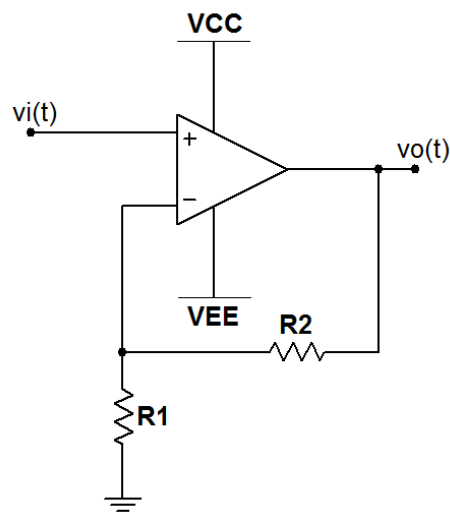

Figure 2.4: Circuit for Problem 2.4
Figure 2.4 illustrates a *noninverting amplifier* constructed from an operational amplifier. The voltage gain of the noninverting amplifier is $v_o/v_i = 1 + (R_2/R_1)$.
Enter the circuit of Figure 2.4 on the previous page using the TL072CP op amp model. Place both “A” and “B” devices (the TL072CP contains two opamps in a single package), reserving the “B” device for the last part of the problem. Place the V_{CC} and V_{EE} power supplies and set their values to +15 V and -15 V.
1. Build the circuit of Figure 2.4 on page 63 with $R_1 = 10 \text{ k}\Omega$ and $R_2 = 10 \text{ k}\Omega$, and establish connections for the function generator and oscilloscope as follows: